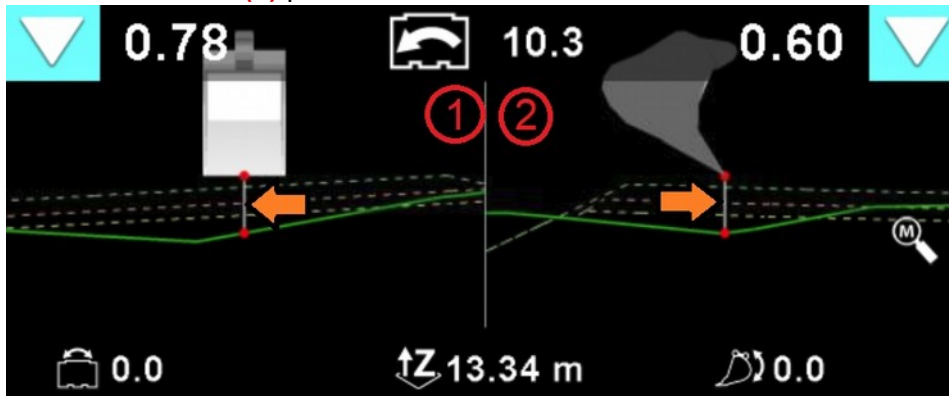

Fig. 49. Profile / cross-section detailed.
Orange arrows at Fig. 49 highlights the measurement line. Line starts from the measurement point of the bucket and ends to an active surface.
- (1) Bucket is shown from front (Fig. 49)
- (2) Bucket is shown from side (Fig. 49)